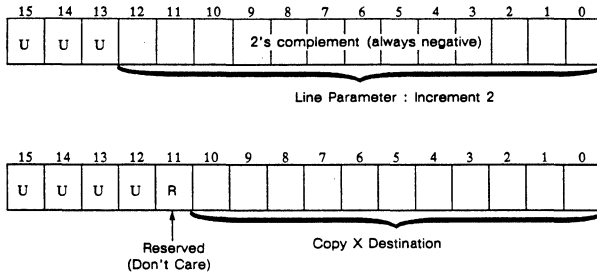

Figure 3-16. Copy X Destination/Incr 2 Register (8EE8h Write Only)
value when drawing a line (see Figure 3-16). The command performed is specified by the Drawing Command (DC) Register. The value is 13 bits signed when line drawing is specified. The minimum for the line drawing is: